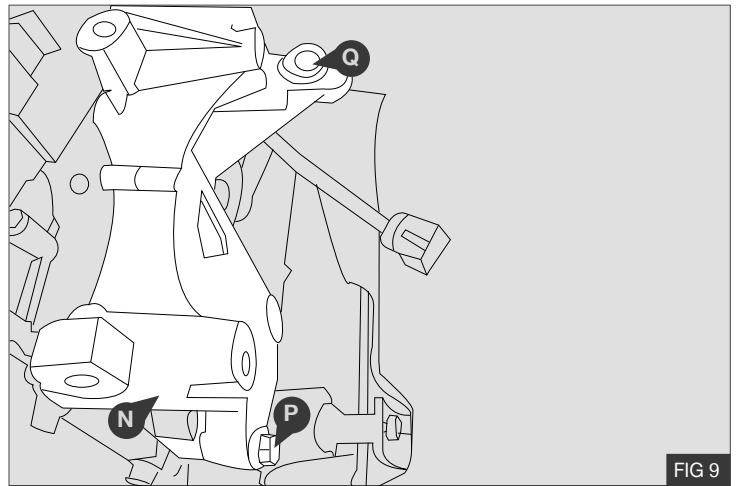

FIG 9
9. Remove the OE mount bracket (N) and retain 3 of the 5 OE M10 x 45 bolts (P) for use later - Fig 9
10. Remove the sliding bush (Q) from the OE mount bracket (N) for use later - Fig 9